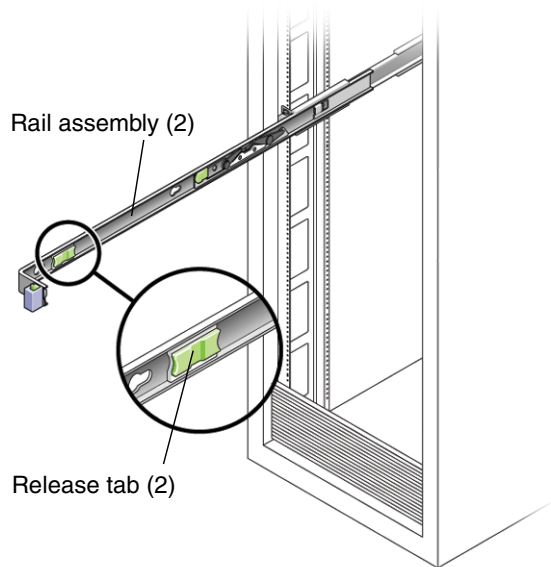

FIGURE 3-44 Release Tabs – Rails
- 1. Release the slide rails from the fully extended position by pushing the release tabs on the side of each rail (FIGURE 3-44).**